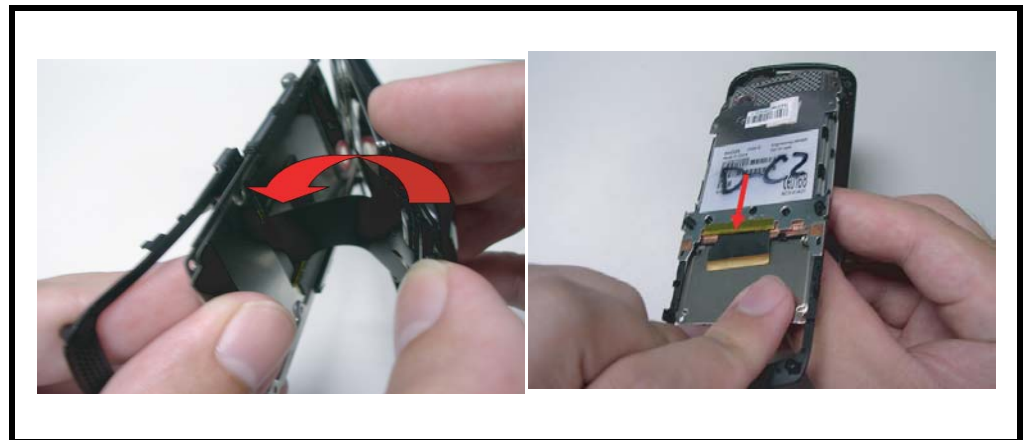

Figure 23. Insert FPC
7. Insert the board to board FPC into the channel of the hinge, then pull out the FPC from the other side as shown in Figure 23.